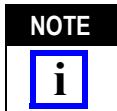
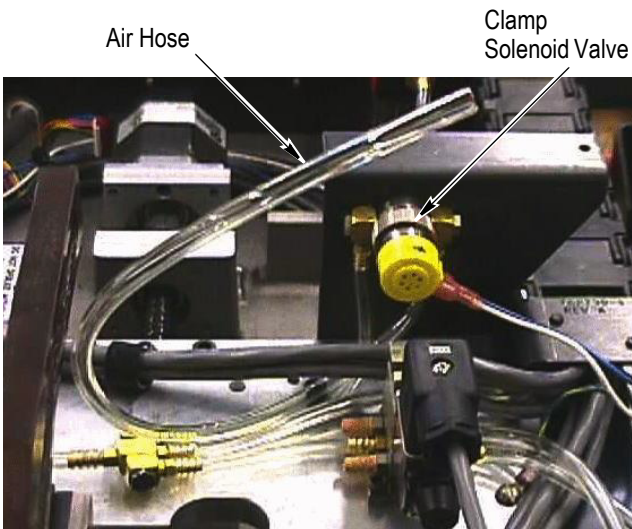

Figure 1
Figure 3
## 2. DESCRIPTION (See Figure 1)
4. On the machine, plug the air hose from the clamp solenoid valve (see Figure 3) onto the fitting of the cable clamp (refer to Figure 1).
Figure 4 lists recommended customer-replaceable parts. These parts should be inspected regularly. Customer-replaceable parts should be stocked to prevent machine or assembly downtime in the event that they require replacement. For location of the parts, refer to Figure 1. For location of the air hose and clamp solenoid valve, refer to Figure 3.